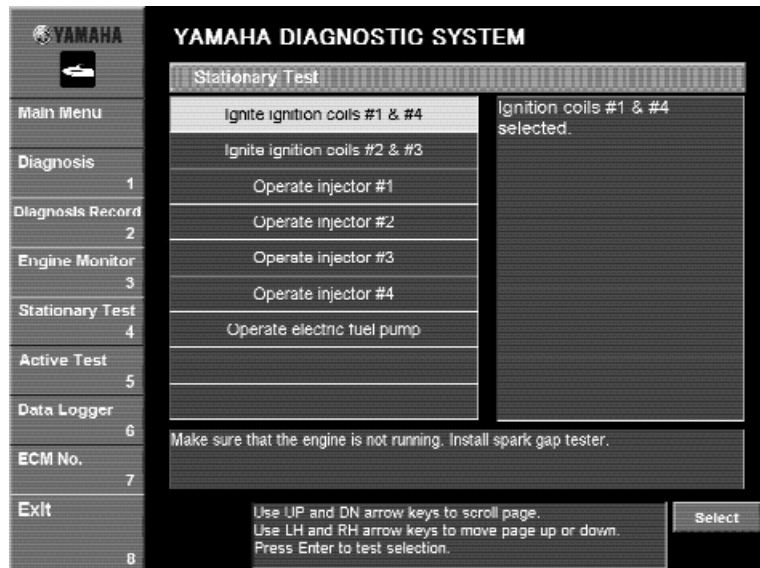

Fig. 46
9. To perform the test again to the same cylinder, click the **Execute** button or press the Enter key on your keyboard. To perform the test on a different cylinder, click the **Return [ESC]** button or press the Esc key on your keyboard to return to main menu where a different test can be selected (Fig. 46).